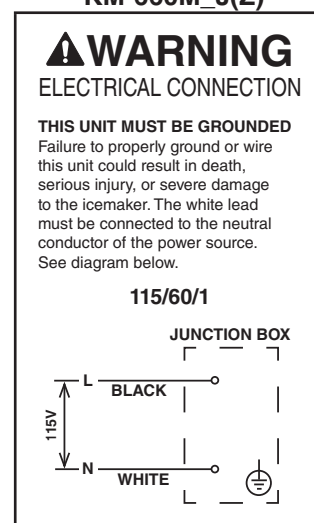

Fig. 3
- Electrical connection must be made in accordance with the instructions on the "WARNING" tag, provided with the pig tail leads. See Fig. 3.